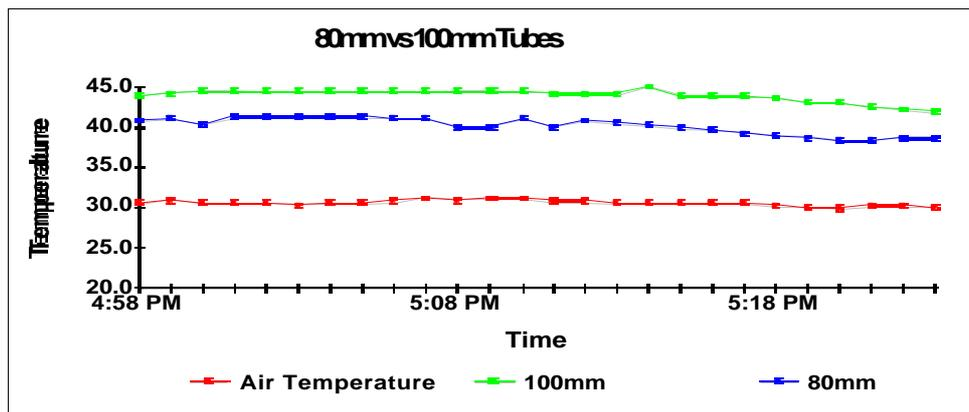

Fig 3. Larger tubes (100 mm sides) were 3°C hotter than smaller tubes (80 mm sides).
- Larger vineguards (100 mm sides) were hotter than smaller ones (80 mm sides) by 3°C. (Fig 3)